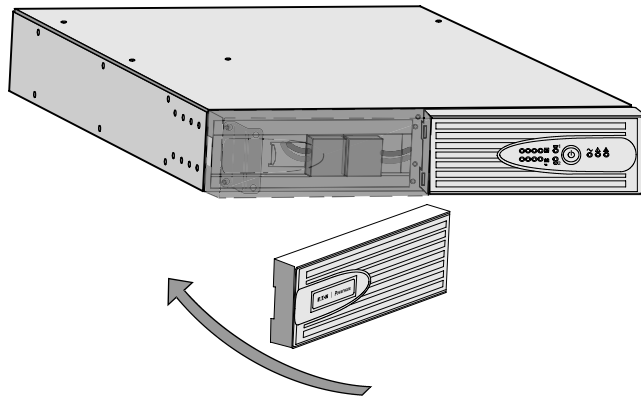

**Figure 2. Connecting the Internal Battery Connectors**
2. Connect the internal battery connectors by firmly pressing the connectors together (see Figure 2).